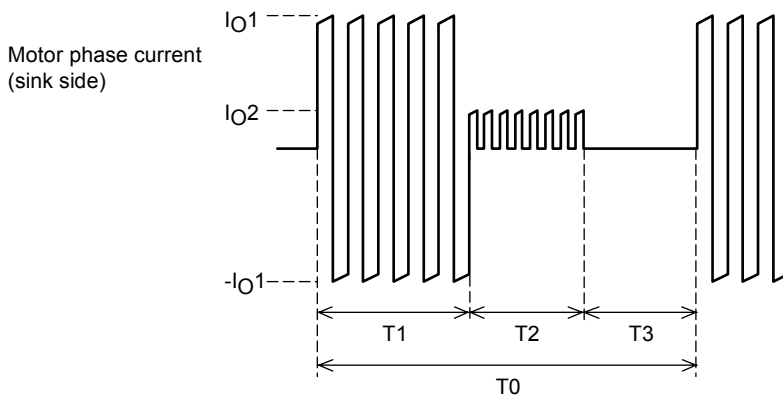
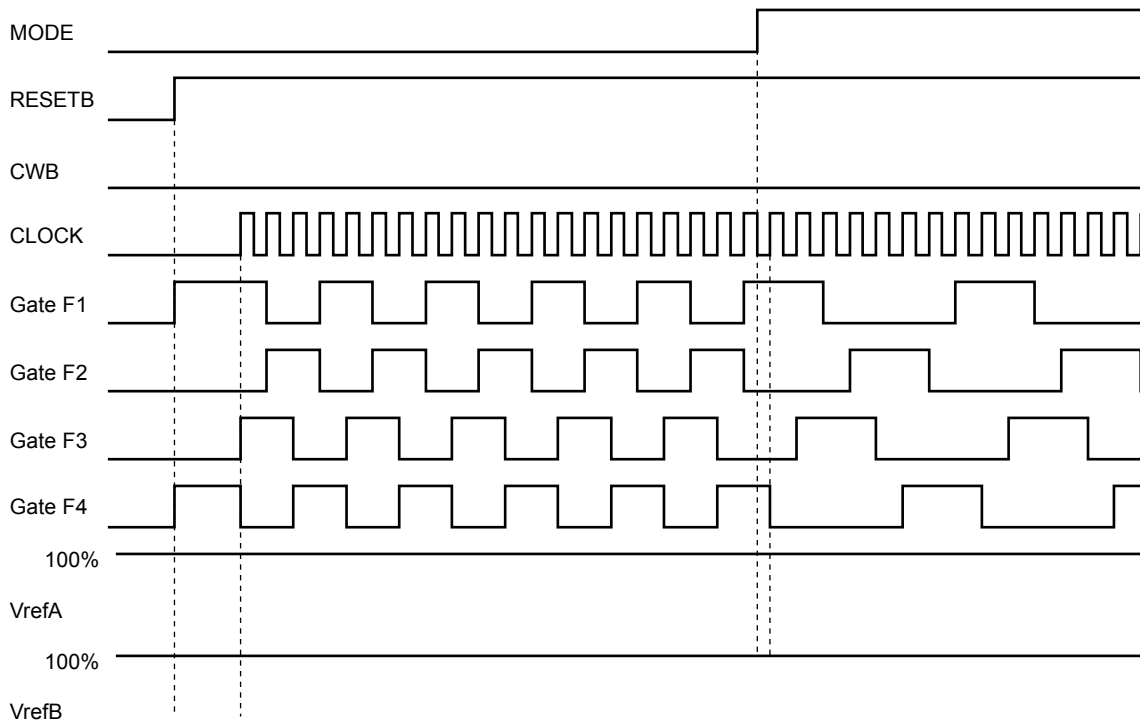
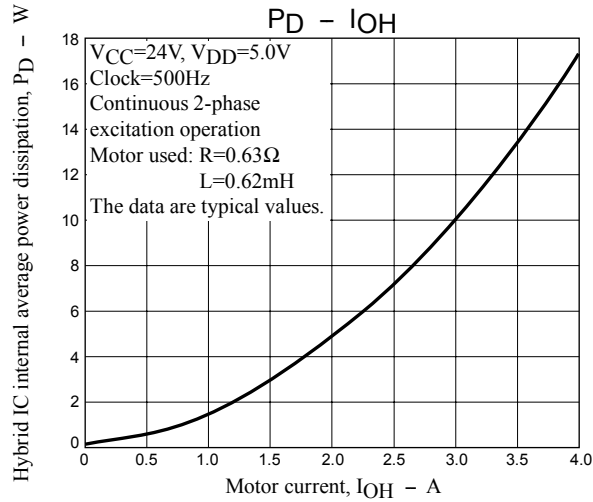

Figure 4 Motor Current Timing
Figure 5 Hybrid IC internal average power dissipation, P_D - Motor current, I_{OH}
Figure 6 Substrate temperature rise, ΔT_c - Hybrid IC internal average power dissipation, P_D
As shown in figure 6, the value of ΔTc increases as the hybrid IC internal average power dissipation PD increases. As shown in figure 5, PD increases with the motor current. Here we describe the actual PD calculation using the example shown in the motor current timing chart in figure 4.
Since there are periods when current flows and periods when the current is off during actual motor operation, PD cannot be determined from the data presented in figure 5. Therefore, we calculate PD assuming that actual motor operation consists of repetitions of the operation shown in figure 4.
Note that figure 4 presents the concepts here, and that the on/off duty of the actual signals will differ.
If the value calculated in formula (I) above is under 1.4W, then from figure 6 we see that operation is allowed up to an ambient temperature Ta of 60°C.
While the operating range when a heat sink is not used can be determined from formula (I) above, figure 5 is merely a single example of one operating mode for a single motor.
For example, while figure 5 shows a 2-phase excitation motor, if 1-2 phase excitation is used with a 500Hz clock frequency, the drive will be turned off for 25% of the time and the dissipation PD will be reduced to 75% of that in figure 5.